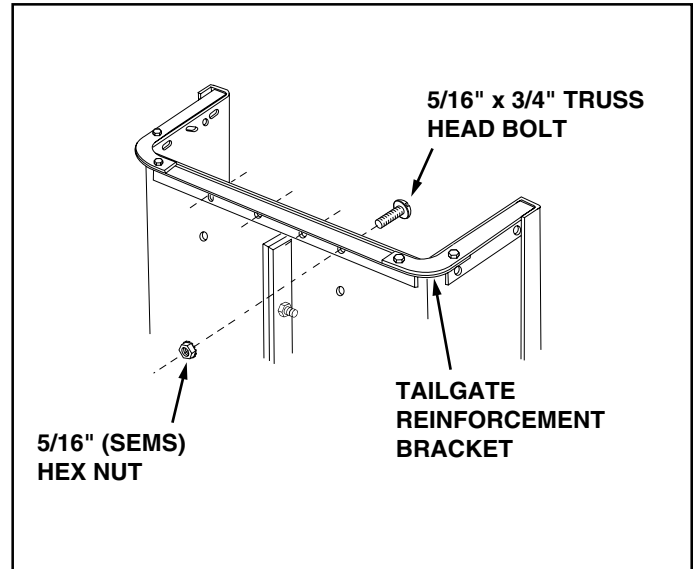

FIGURE 2
4. Fasten the tailgate reinforcement bracket to the bottom of the cart body using four 5/16" x 3/4" truss head bolts and 5/16" (SEMS) hex nuts as shown in figure 2. **Do not tighten yet.**